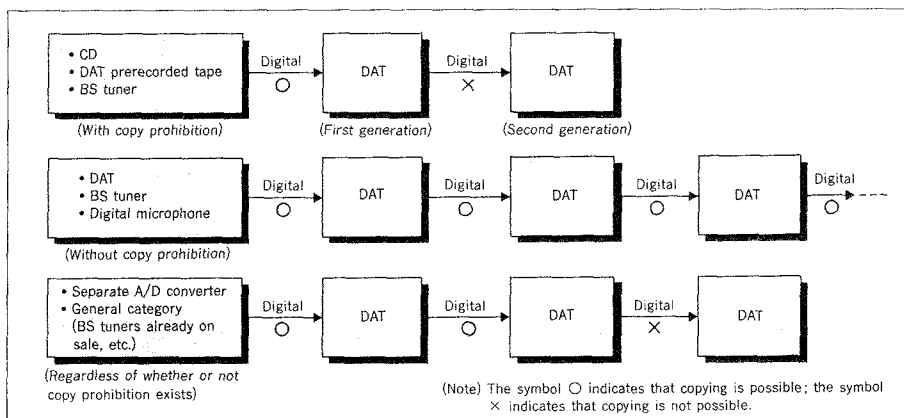

Fig. 5: Digital copying with the serial copy management system
- (1) Digital copies (first generation) can be made even of copyrighted software such as CDs, store-sold prerecorded DATs and digital broadcasts. However, second-generation copying from DAT is not possible (See Fig. 5).